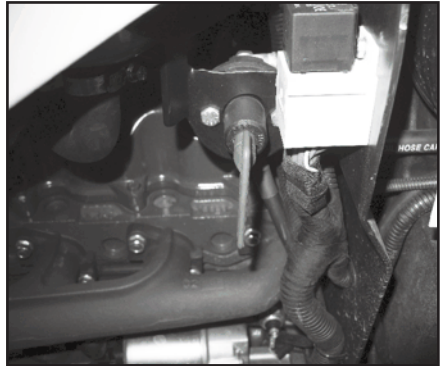

Fig. 5.16.2
- The switch is set to the "OFF" position by turning it 1/4 of a turn in the anti-clockwise direction: electrical system not powered (Fig. 5.16.2);